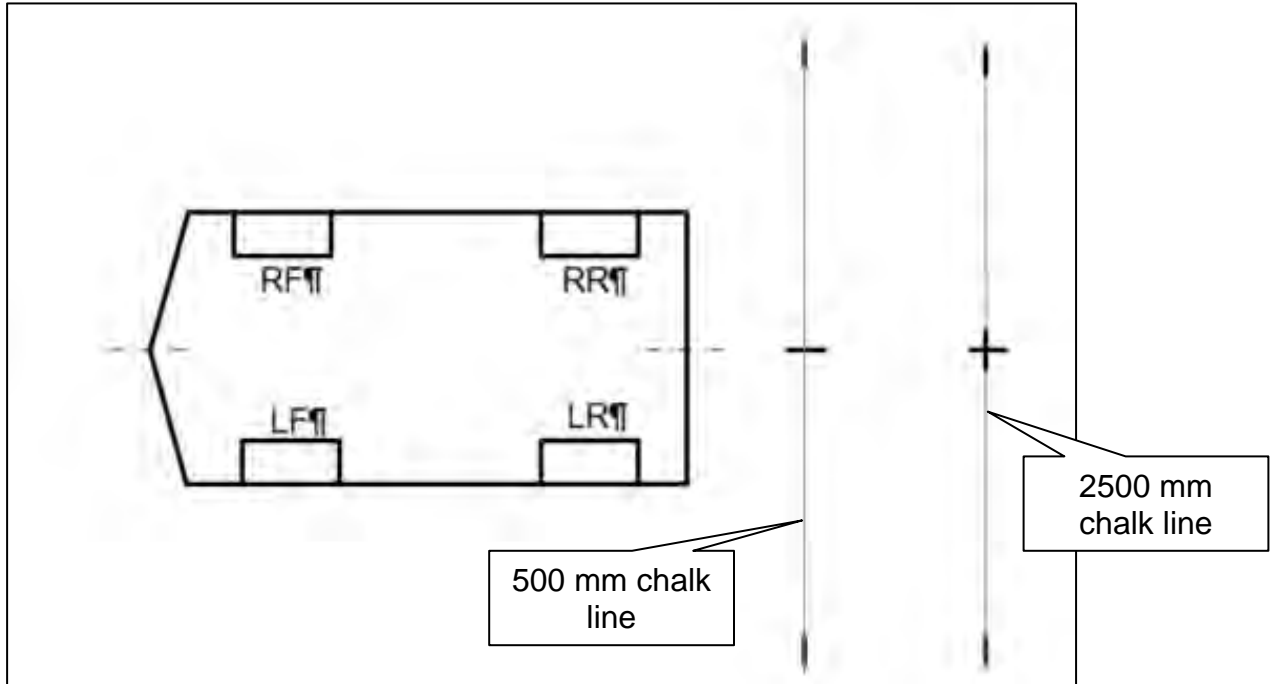
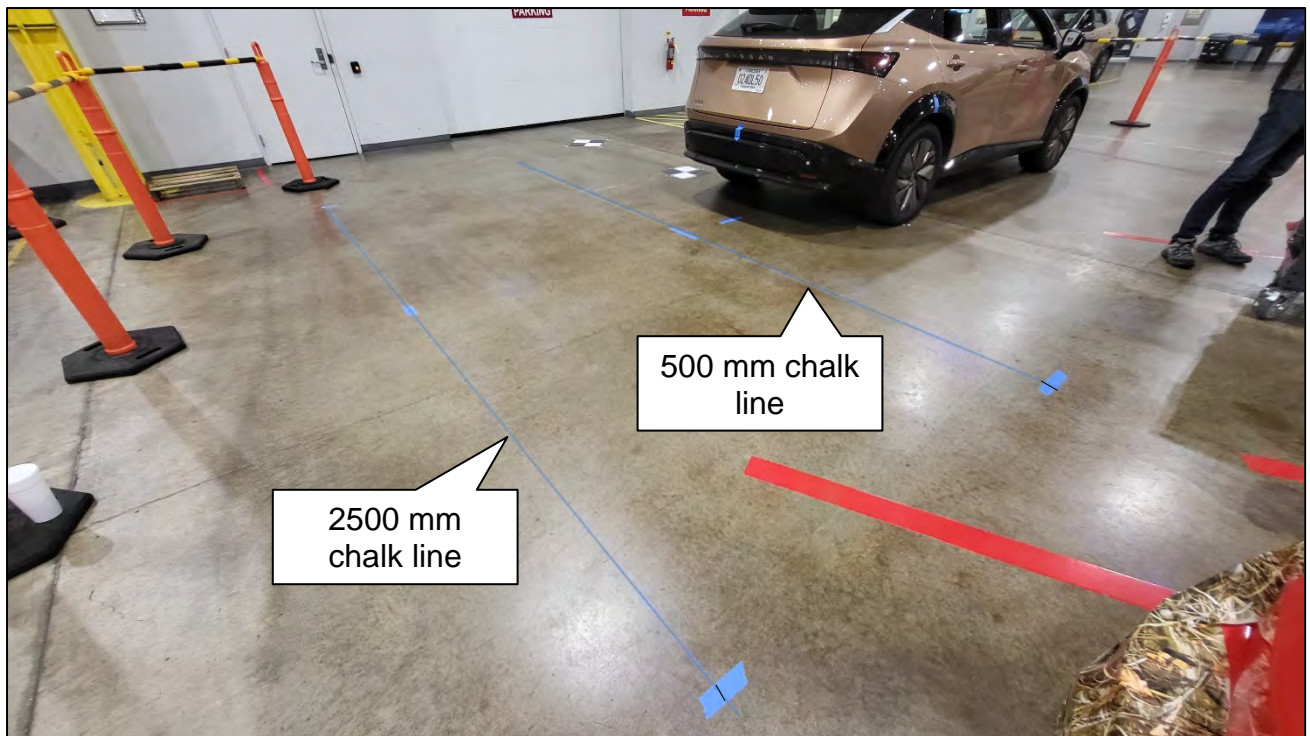

Figure 80
Figure 81
53. Use a chalk line tool to make a line between the 500 mm and 2500 mm marks, as shown in Figure 80 and Figure 81.